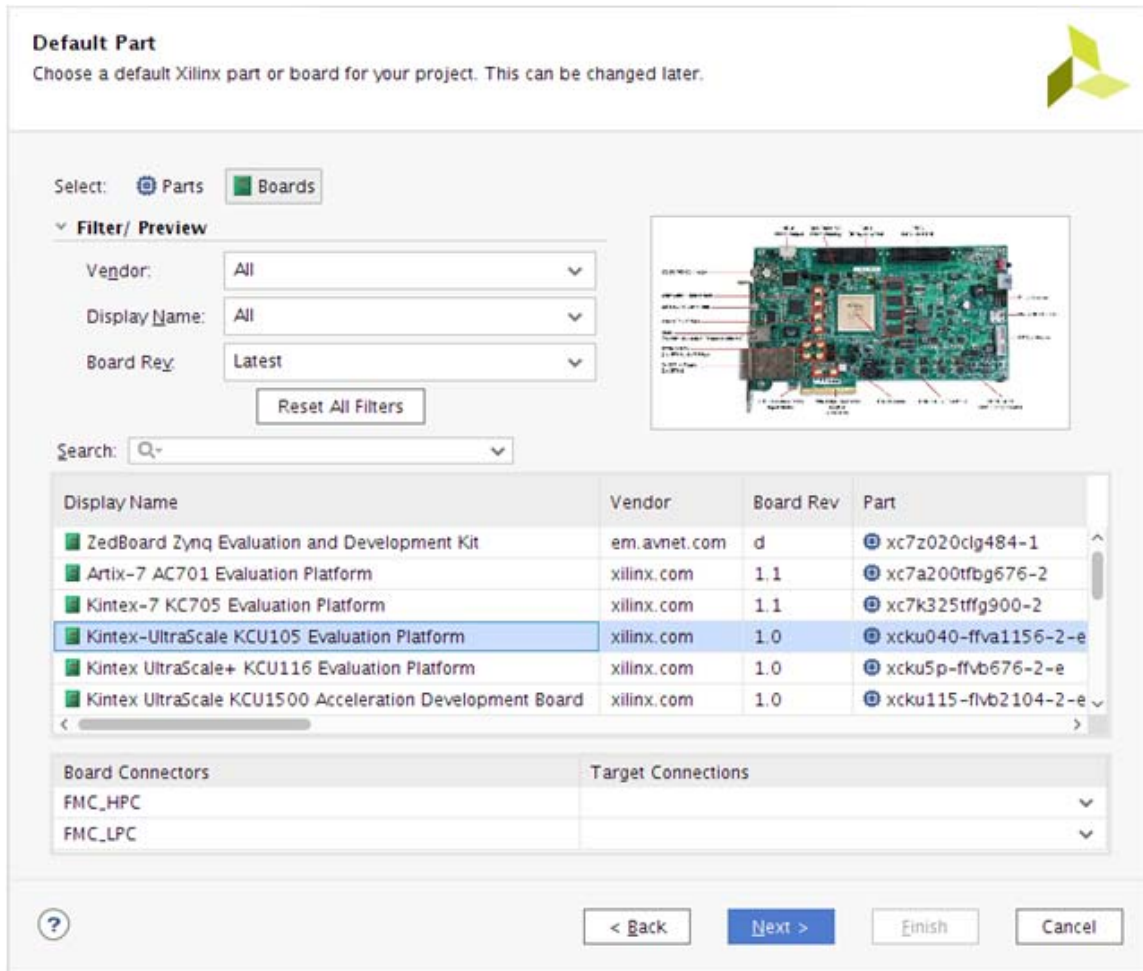

Figure 5-3: Board Selection
- In the **Default Part** window (Figure 5-3), select the Board as per your requirement. Application Example Designs are available for KCU105 and ZCU102.